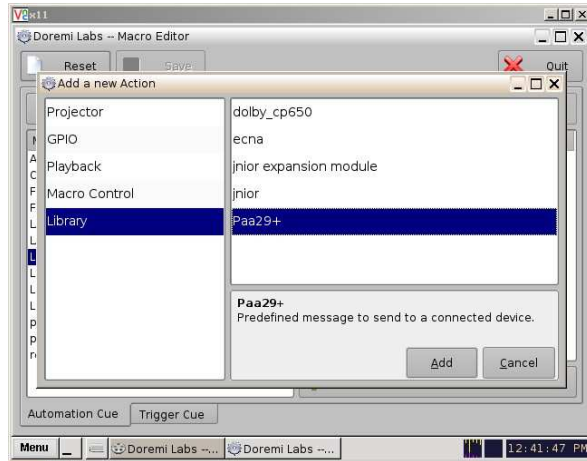

Figure 8.3.3C
7. Select "Library / Paa29+" on the "Add a new Action" pop-up window and click in on "Add". See **figure 8.3.3C**.